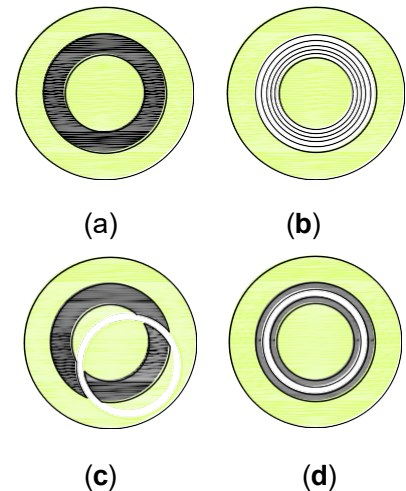

Fig. 19
- d. Observe from the telescope. The bright ring and dark ring should be coincided with each other as shown in **Fig. 19 (d)**.
- f. If the bright ring is still obscure as in **Fig. 19 (b)**, adjust the condenser focusing knob.
- g. If the two ring images are not coincided as shown in **Fig. 19 (c)**, adjust the two centering screws on the phase contrast condenser.